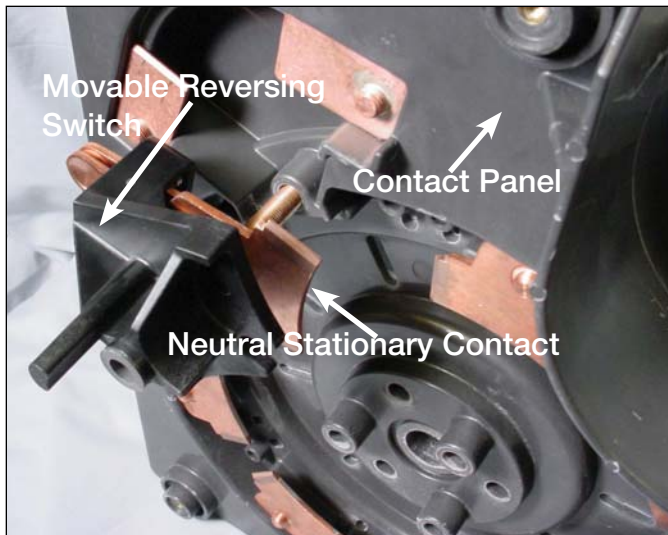

Figure 24.
- Pull out on the reversing movable contact assembly removing from the contact panel. See Figure 24.